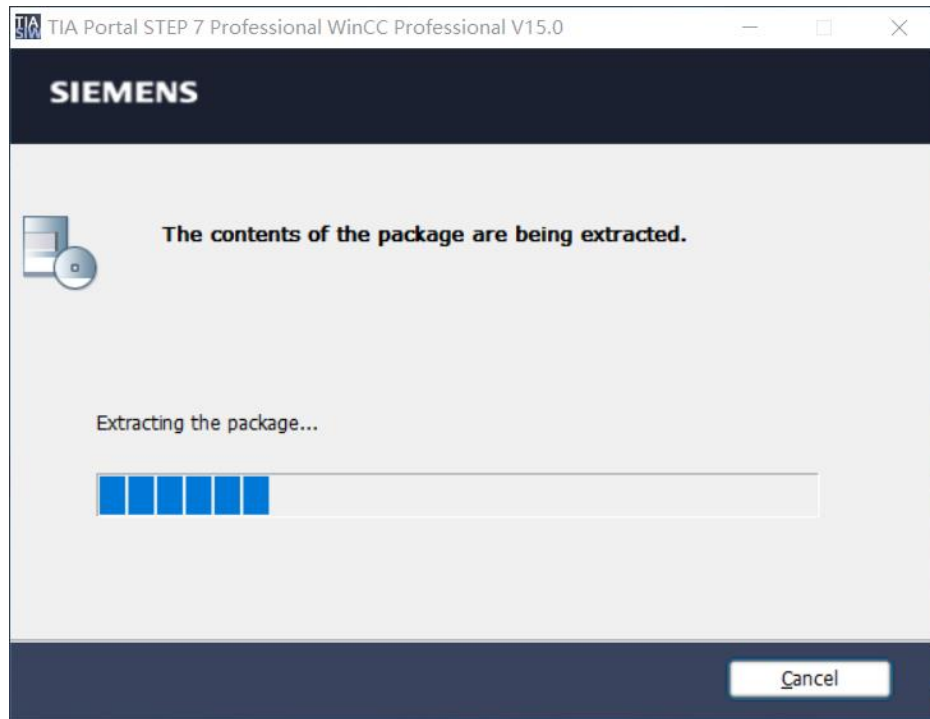

Figure 1.2 Decompress data
Step 2 Install the software as instructed and wait for the file to be decompressed successfully, as shown in Figure 1.2.